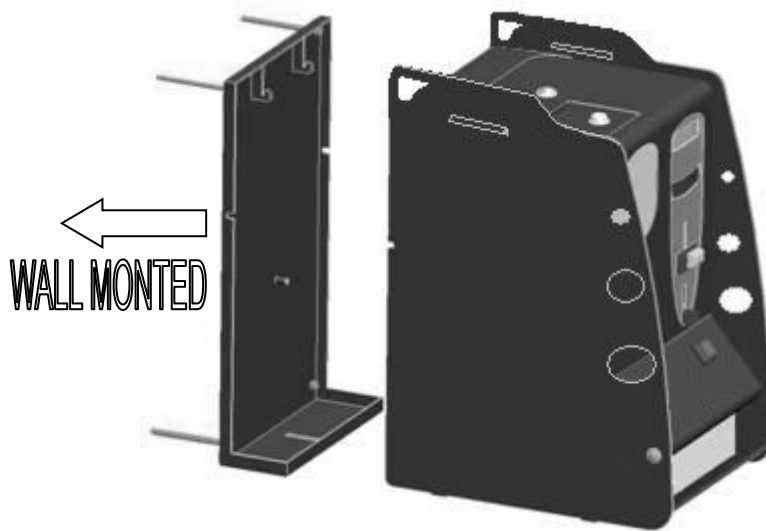

Fig. 5
The following drawing shows the dimensions of the machine to facilitate its placement and installation. The Easy PRO change machine can be installed in three different ways: on a countertop, on a support base (optional) (Figures 3-4), or wall-mounted on the appropriate “Easy-up” flange (optional) (Figure 5).
- Mount Easy-up onto the wall with a screwdriver and through the four supporting brackets (Figure 5)